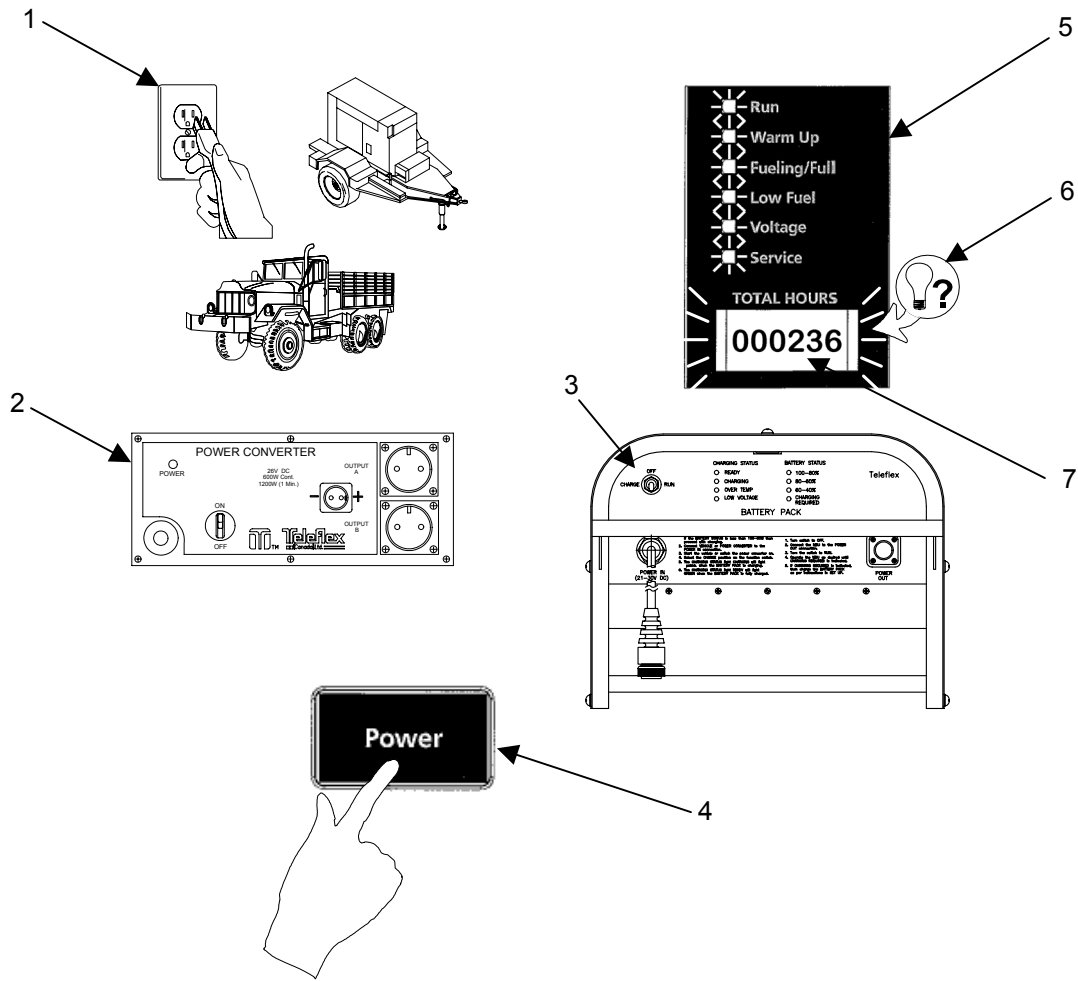

Figure 9. MBU and Associated Equipment Power-up Sequence
1. Ensure power is available at the source (**figure 9, item 1**). If 110VAC is used be sure that commercial power is available or that the generator is running. If a vehicle is being used, be sure that it is running.
2. If 110VAC is used, place power converter switch (**figure 9, item 2**) to ON.
3. If the Battery Pack is used, make sure the 3-Position Function Switch (**figure 9, item 3**) is in the RUN position.
4. Push POWER button (**figure 9, item 4**) on individual MBU's.
5. Verify that the MBU is under power: Indicator lights (**figure 9, item 5**) will flash for about three seconds, and the hour meter background light (**figure 9, item 6**) will illuminate. The hour meter will display a series of characters before displaying the actual accumulated number of operating hours.
6. Observe hour meter reading (**figure 9, item 7**). Note that all required service must be done before operation.